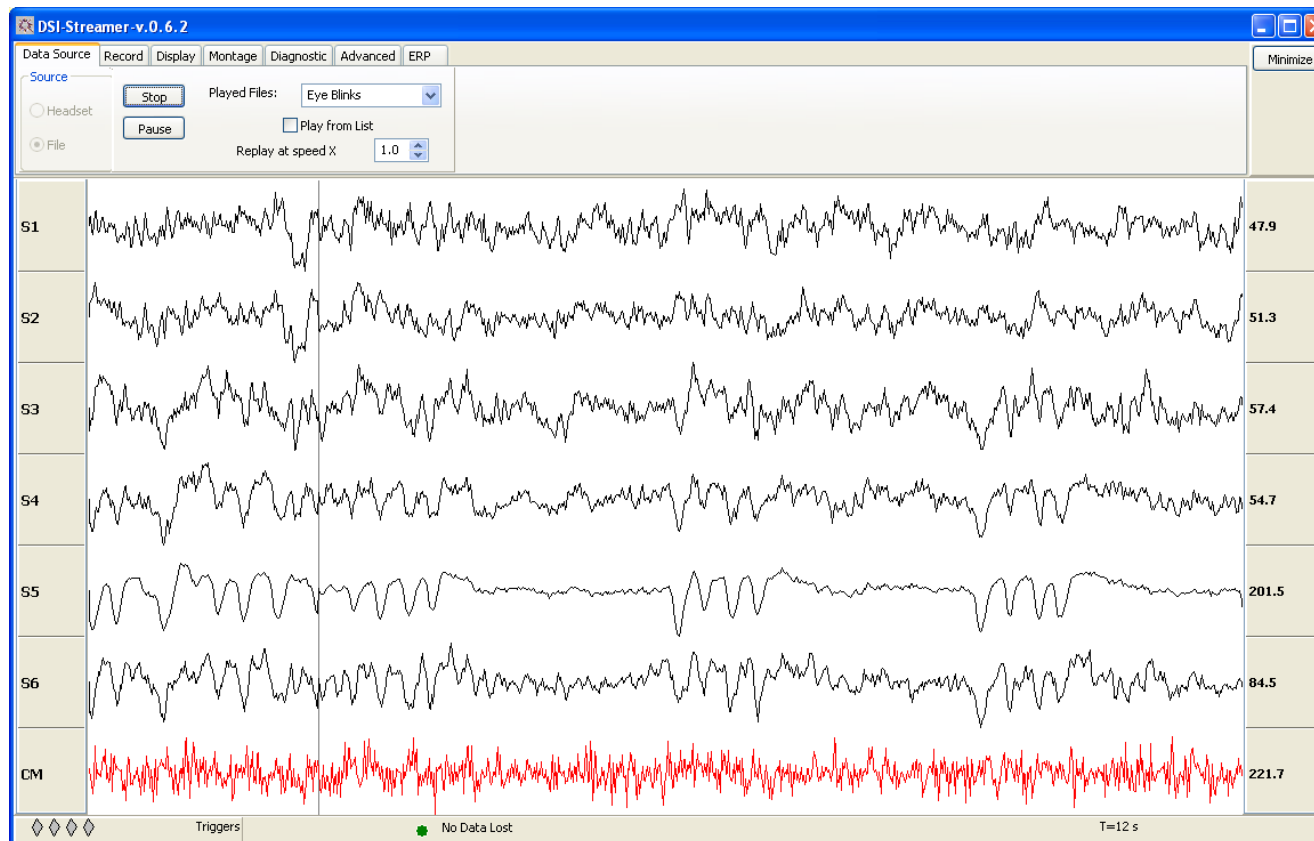

Figure 26 – Playback of a DSI-Mini EEG file showing eye-flutters.
- The selected data file will be opened and played back from the start of the file (Figure 26).